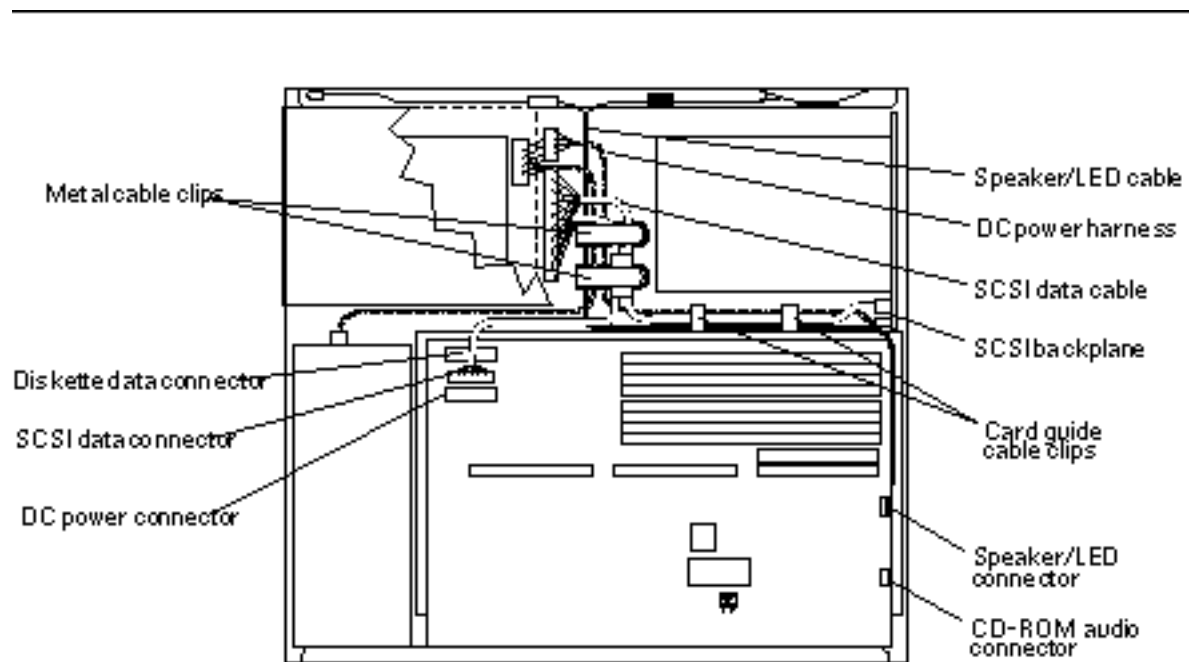

Figure 9-13 System Board Cable Connections
4. **Unplug the DC power, SCSI data, diskette data, speaker/LED, and CD-ROM audio cables from the system board (see Figure 9-13).**